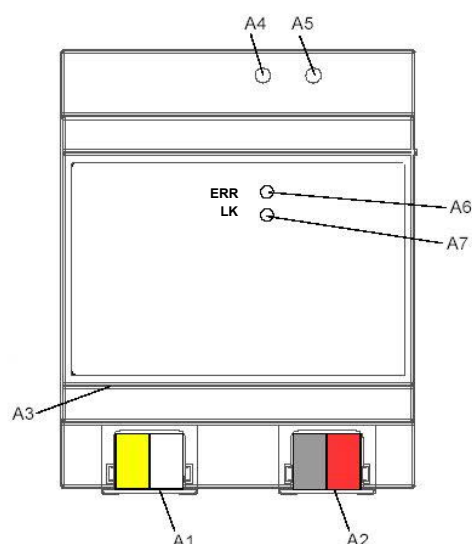

Figure 1: Location of the display and operating elements
- Connect the auxiliary power AC/DC 24 V with the yellow-white bus connector terminal (Figure 1, A1).
- Connect the bus line with the black-red bus connector terminal (Figure 1, A2).
- Plug an Ethernet patch cable with an RJ45 plug into the RJ45 socket (Figure 1, A3) to connect the device with the LAN/Intranet.
A connection is established to the network when the yellow LED marked LK (Figure 1, A7) is continuously lit.
- Unplug the Ethernet patch cable from the RJ45 socket (Figure 1, A3)
- Remove the yellow-white bus connector terminal (Figure 1, A1) from its socket.
- Remove the black-red bus connector terminal (Figure 1, A2) from its socket.